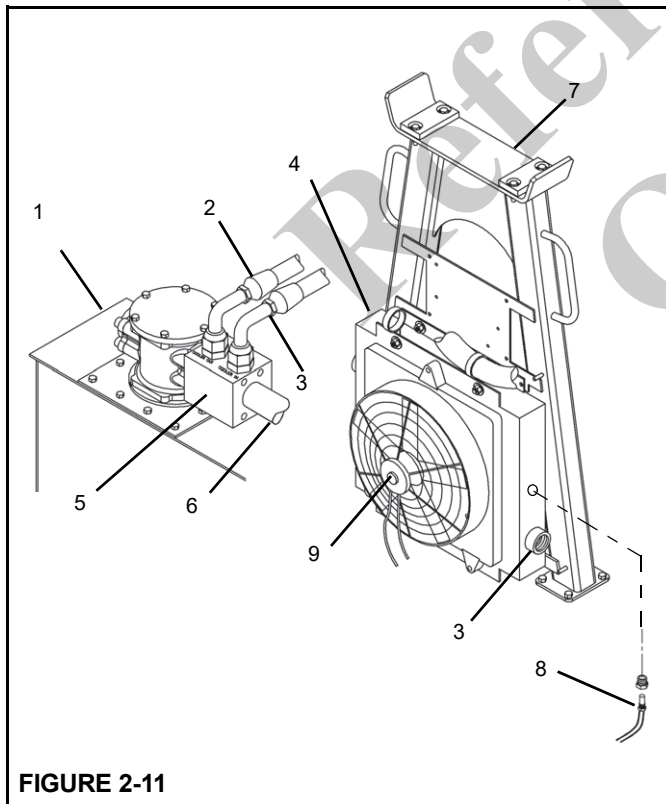

FIGURE 2-11
A hydraulic oil cooler (4, Figure 2-11) is located on the boom rest (7). The oil cooler return circuit (3) is in parallel with the reservoir return circuit (6). The oil cooler inlet (2) and return/out circuits run through the by-pass block (5) on top of the reservoir (1). A 206 kPa (30 psi) check valve in the by-pass block (5) regulates flow through the oil cooler (9). When the hydraulic oil is cold, most of the return oil goes directly to the tank. As the oil warms up and becomes thinner, more oil goes through the cooler.